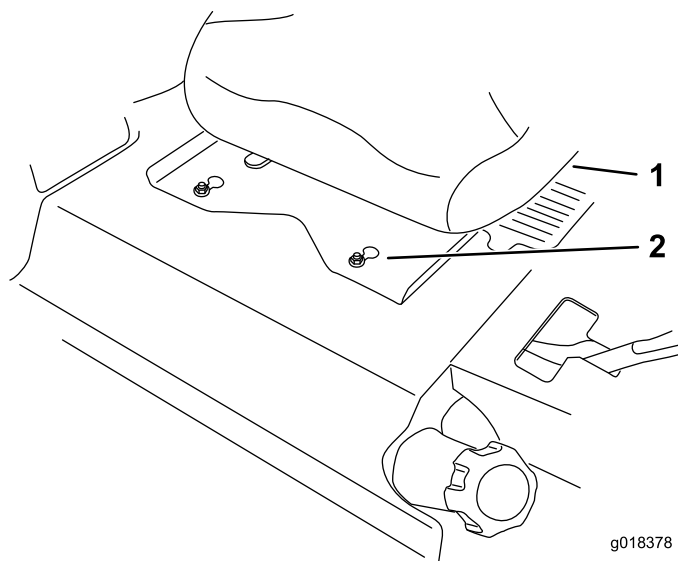

Figure 1
5. Slide the seat and seat plate forward to allow the front nuts to go through the key holes (Figure 1).
9. Slide the seat and seat plate rearward to lock the front nuts into the key hole and the rear nuts into the slots (Figure 1).